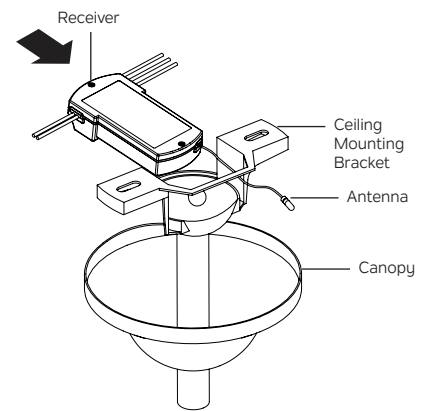

Fig. 1
Step 1. Insert the receiver into the ceiling mounting bracket with the flat side of the receiver facing the ceiling. (Fig. 1) For best performance, make sure the black antenna wire (on the end of the receiver) remains extended, and does not become tangled with the electrical wires.